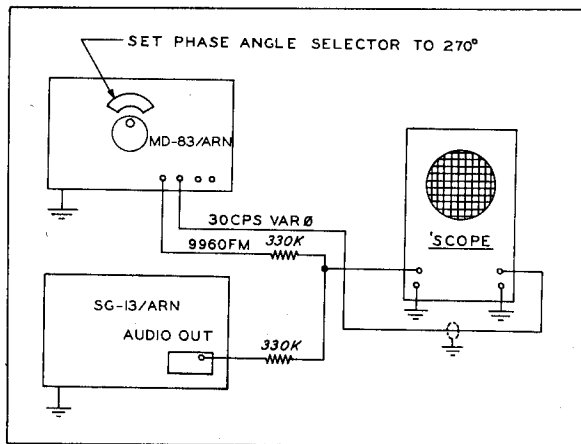

Figure 8-3A. Alternate Procedure, Frequency Adjustments
d. If an accurately calibrated a-f oscillator is not available, the following alternate procedure may be used to set the 9960 cps frequency. Set AUDIO SELECTOR to the 9960 FM position and set DEV LEVEL control for zero deviation as before. Adjust the carrier set control approximately to the red line. Connect the AUDIO OUT connector to the vertical input of an oscilloscope through a 330K resistor (figure 8-3A). Connect the 30 cps variable phase connector of Modulator MD-83/ARN to the horizontal input of the oscilloscope. Adjust the PHASE ANGLE SELECTOR of